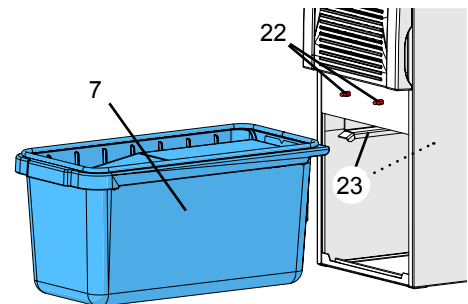

Fig. 16
- ⇒ Inspect the dust drawer seal for damage and replace it, as required (24).
- ⇒ Insert the dust drawer, making sure it is straight, and push it in as far as it will go. Make sure that the dust drawer is seated correctly on the guide (23, Fig. 16).
- ⇒ Install the front panel (5, Fig. 1) on the bottom hooks then push it into the upper lock bolts (22, Fig. 16), pressing firmly until it locks in place.